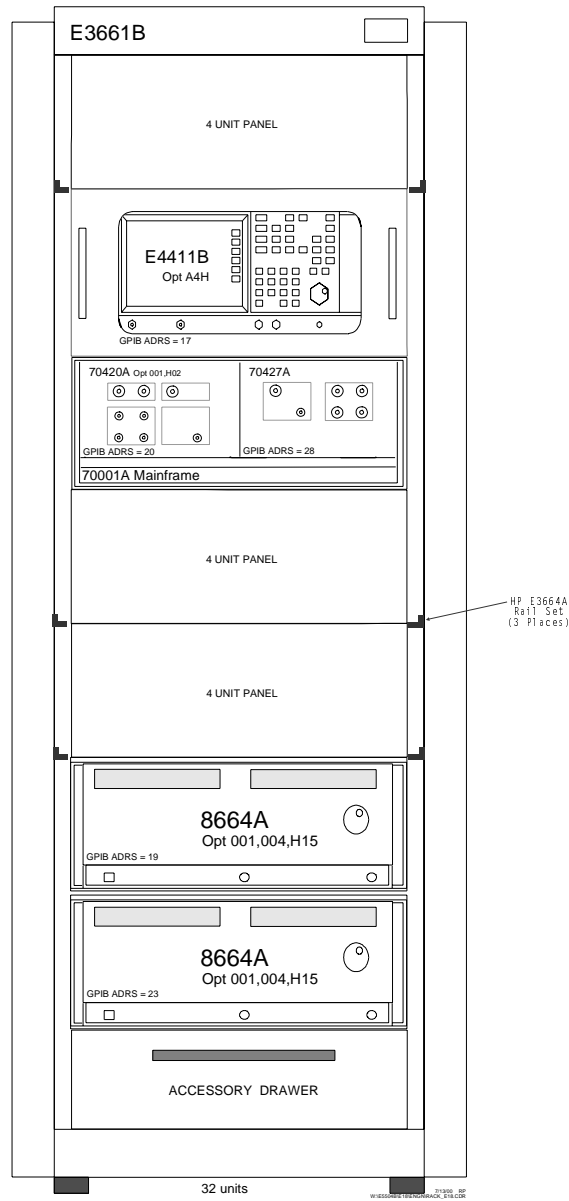

Figure 1 E5504B E18 Rack Configuration Diagram
- Adds a custom instrument cabinet configuration (figure 1).